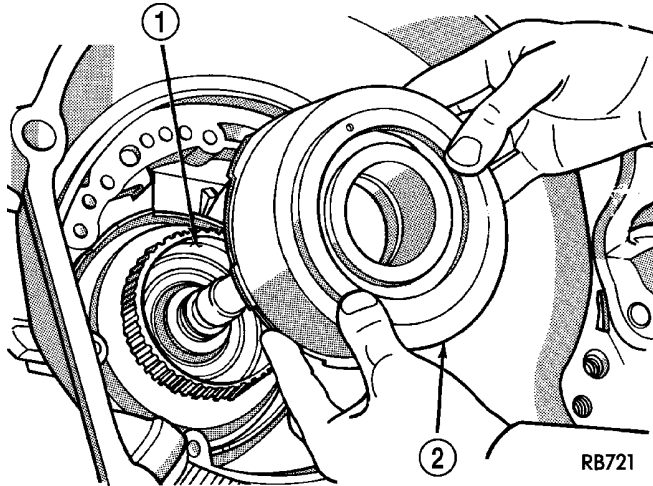

Fig. 56 Front Clutch Assembly
(15) Install front clutch assembly (Fig. 56). Ensure that all clutch discs are engaged to rear clutch retainer splines or transaxle failure will result.